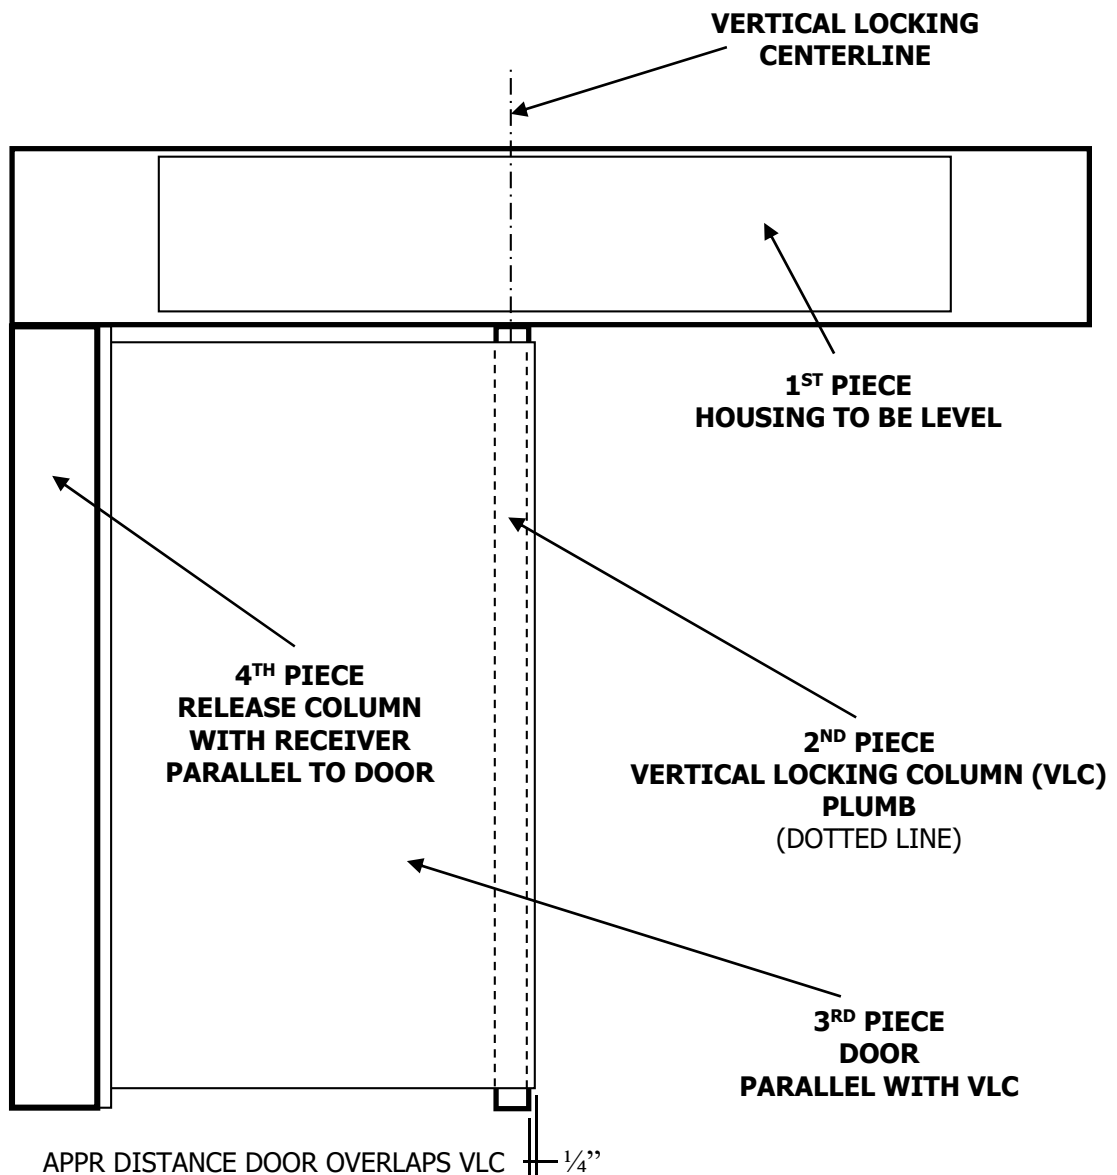

FIGURE 1
1. The **Housing** is to be hung level at the specified height (Figure 1). Housings can be welded and/or bolted in place depending on conditions. When mounted at a frame opening, the edge of the vertical lock column hole (small rectangular hole in the rear, near the center of housing) must be located $3/8''$ away from the opening edge of the frame. Always use 6' or longer level.
2. The **Vertical Lock Column (VLC)** with the **Vertical Lock Rod Assembly (VLC rod)** must be placed under housing with the vertical lock rod protruding through the small rectangular hole in the rear, near the center of the housing. The VLC must be square to the wall and plumb, as well as perpendicular to the housing (Figure 1). The VLC must be fully welded around the top and fillet welded per specifications down each side. When mounted at a frame opening, The VLC must be $\frac{1}{4}$ " from the frame edge opening.